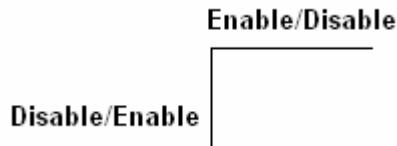
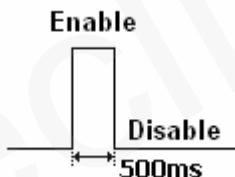
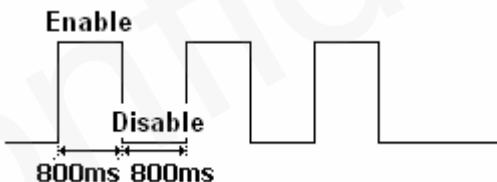

Figure 2: Wave Shape 1
Figure 3: Wave Shape 2
Figure 4: Wave Shape 3
- ✧ <*Output1 – 4 Status*>: Used only for the wave shape 1 as shown in **Figure 2** to set the final status of the output port.
- ✧ <*Duration*>: Please refer to **Figure 2**, **Figure 3** and **Figure 4**. Unit is 100ms.
- ✧ <*Toggle Times*>: Please refer to **Figure 2**, **Figure 3** and **Figure 4**.